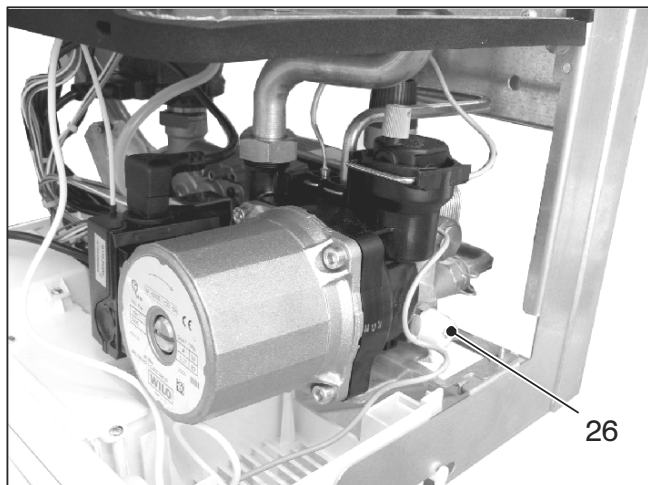

Fig. 8.4
- 2 Open the central heating drain cock (26 in Fig. 8.4).